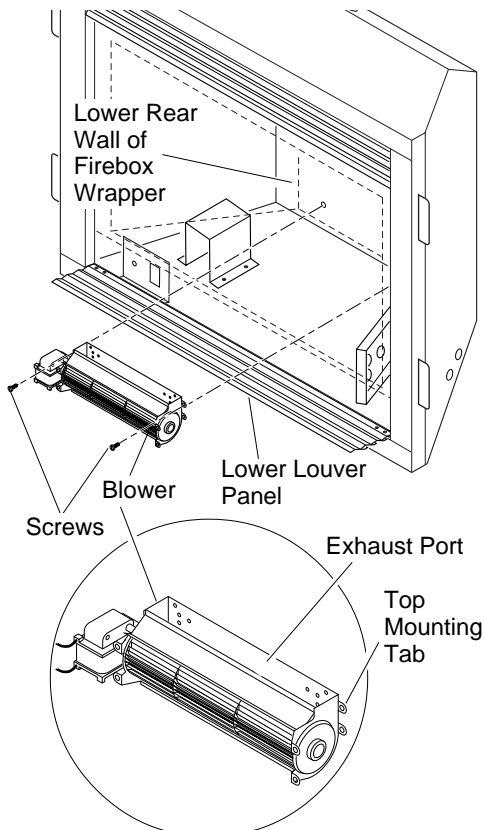

Figure 31 - Mounting Blower to Firebox
IMPORTANT: For clarity, gas valve assembly and grate/burner assembly are not shown in Figures 31 through 34, page 17. They will, however, be in your fireplace when you are installing the blower. Also for clarity the firebox is shown with dotted lines.
2. Place the blower against the lower rear wall of firebox outer wrapper with the exhaust port directed upward. Align the holes in the top mounting tabs of blower with holes in wall of wrapper (see Figure 31, page 17). Using the two screws provided, mount blower and tighten screws securely.